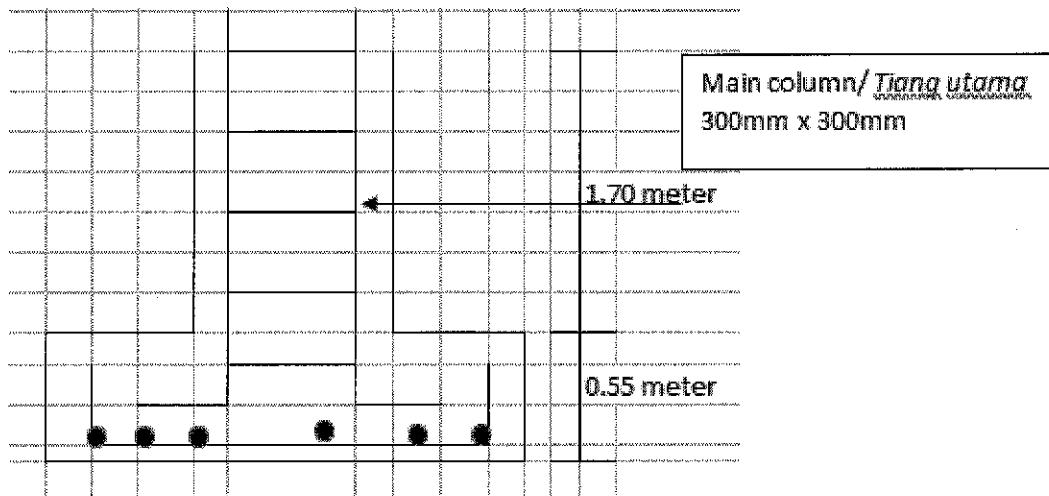

Figure B4(b) : Pad Footing / Rajah B4(b) : Asas Tapak
- CLO2 (b) Based on Figure B4(b), determine the quantity for excavation work and concrete work for pad footing.